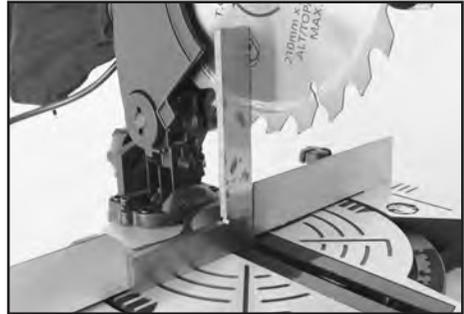

FIG.8
- Loosen lock (2) and adjust the bevel angle as indicated by the pointer (14) on scale (14.1). Tighten locking knob (2) to secure.
8.8 CHECKING THE TABLE TO BLADE ALIGNMENT – FIGS.8 – 10